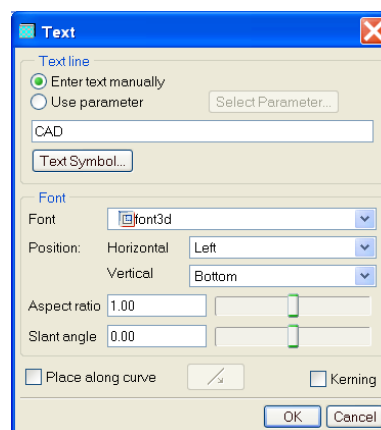
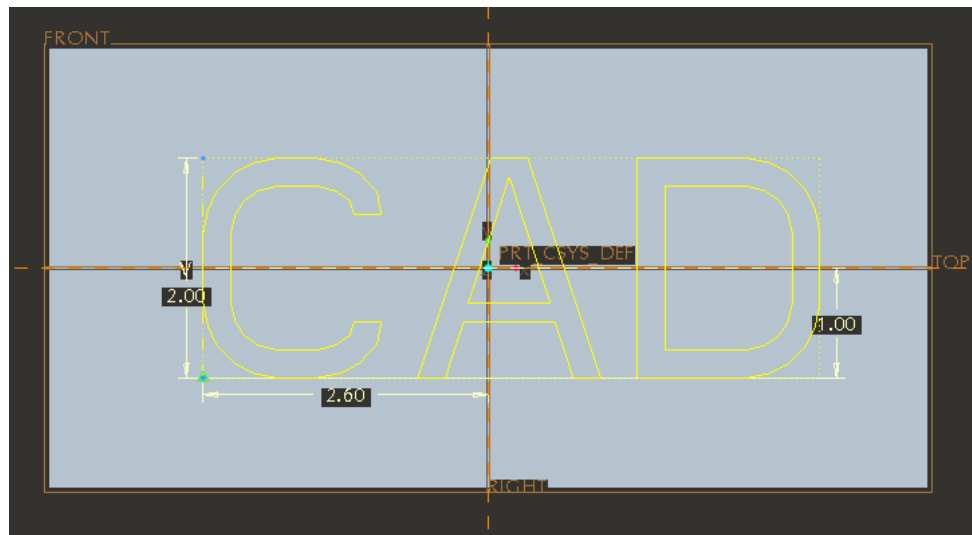

Figure 1.10 The Text dialog
Figure 1.11 Letter CAD
- Produce letters. Sketch → Text from the menu and pick two points on the sketch plan to determine the height of the text and enter letters CAM as shown in the figure 1.10. Modify the size of the text to 2 x 6 and locate the text to the center of the block as shown in figure 1.11.